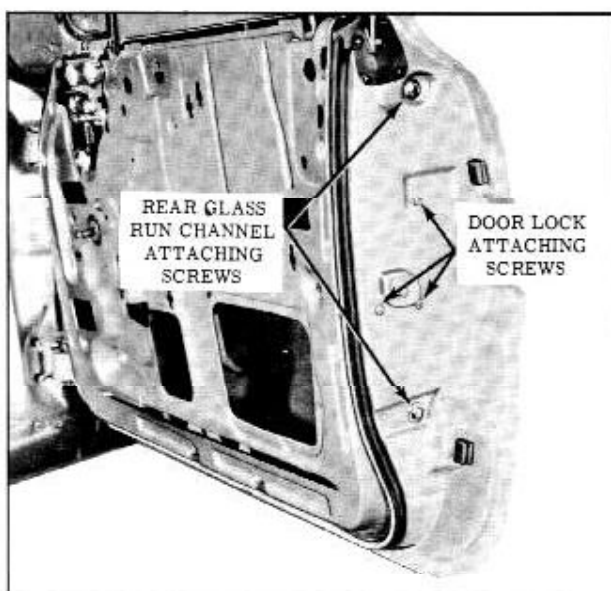

Fig. 17-30 Door Lock and Run Channel
4. Remove door lock attaching screws from lock pillar facing of door and remove lock assembly from door. (Fig. 17-30)
4. To adjust upper rear of window assembly in or out for proper contact with side roof rail weatherstrip, or to adjust rear of window assembly in or out at belt line, loosen rear glass run channel attaching screws at lock pillar facing of door and screw at top of door inner panel. Position channel in or out as required and tighten screws. (Fig. 17-30)
2. Remove 2 screws securing channel to lock pillar facing of door and screw at upper flange of door inner panel. Then remove channel assembly through large access hole. (Fig. 17-30)